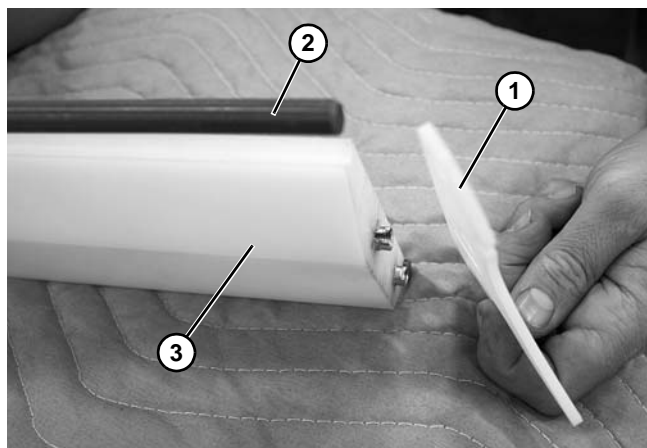

Figure 67
10. Disassemble side guide plates (**Figure 67, item 1**), wear rods (**Figure 67, item 2**), and wear bar (**Figure 67, item 3**). Replace worn parts.